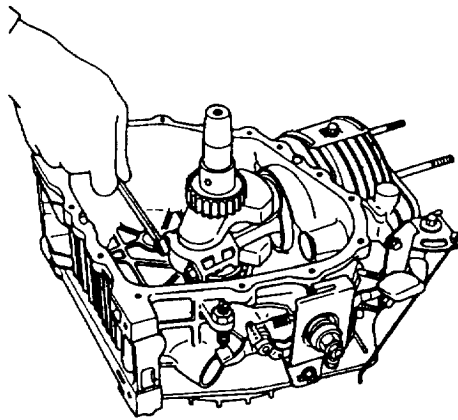

Figure 6-13 Removing the rod bolts and nuts.
- 1) Remove the connecting rod bolts (see Figure 6-13).